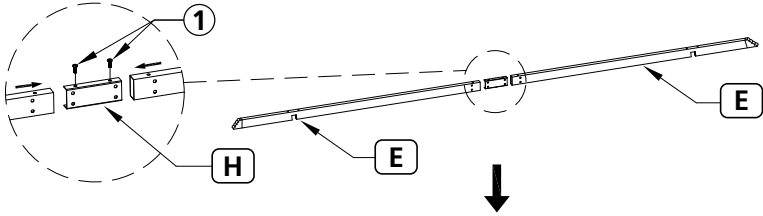

Fig. 2
Place Crossbeam Connector (I) over where these Crossbeams (E) meet as illustrated here, see Fig. 2.